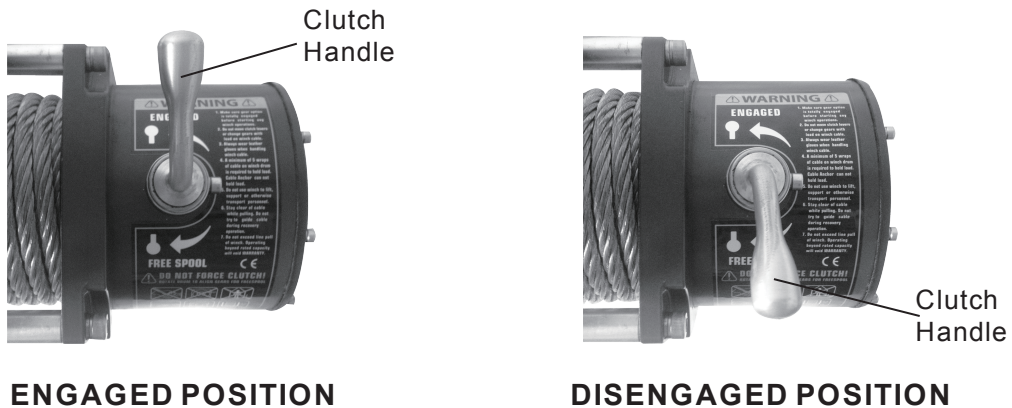

Fig.5
7. **Disengage the clutch** by turning the Clutch Handle to the Disengaged position.(See Fig.5).